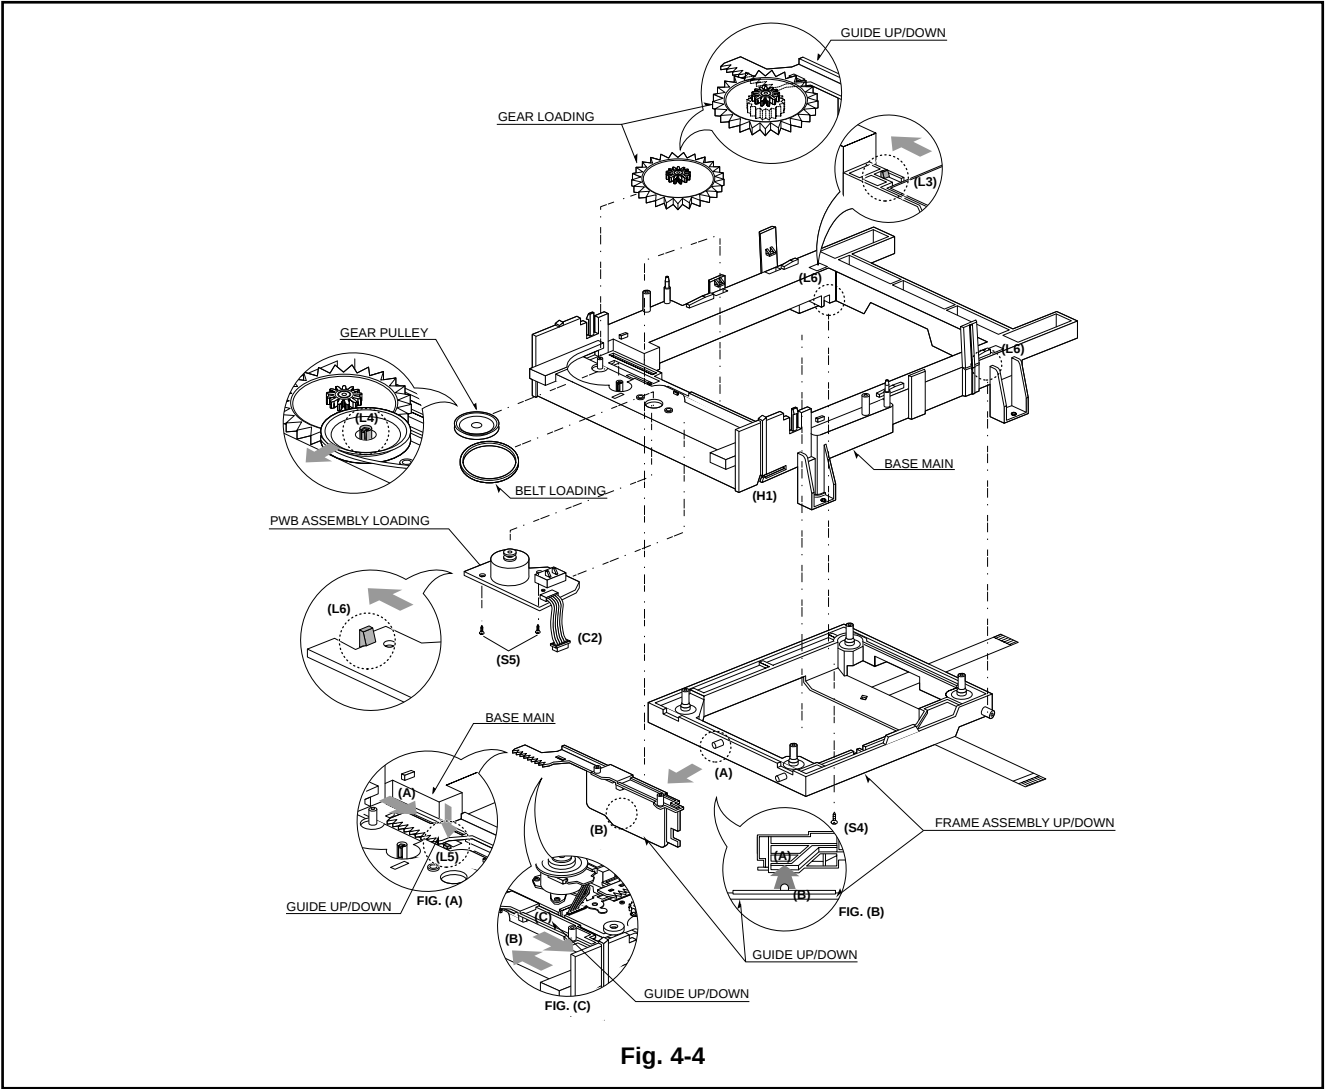

Fig. 4-4
- When reassembling move the Guide Up/Down in direction of arrow(C) until it is positioned as Fig.(C).
- When reassembling insert (A) portion of the Frame Assembly Up/Down in the (B) portion of the Guide Up/Down as Fig.(B)
6. Belt Loading(Fig. 4-4)
- 7. Gear pulley (Fig. 4-4)**
- 1) Unlock the Locking Tab(L4) in direction of arrow(B) and then separate the Gear Pulley from the Base Main.
8. Gear Loading (Fig. 4-4)
9. Guide Up/Down (Fig. 4-4)
11. Base Main(Fig. 4-4)